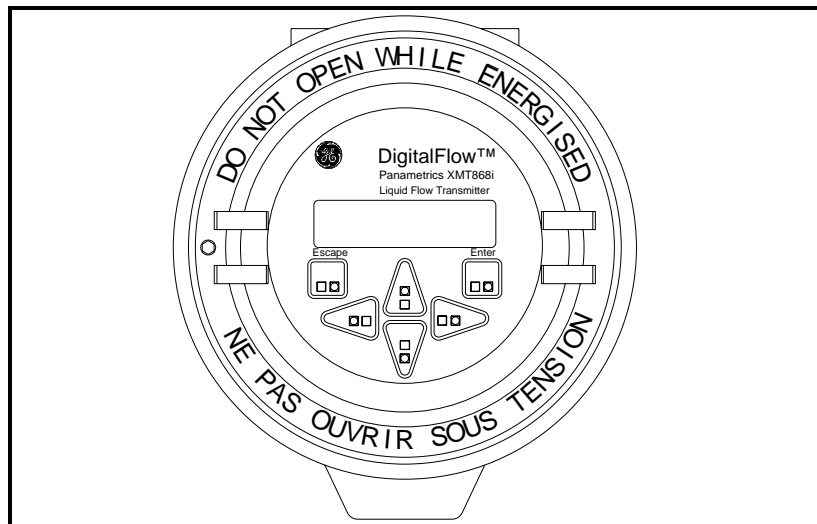

Figure 1-1: XMT868i Enclosure Screen
- The infrared keypad (shown in Figure 1-1 on page 1-2), which permits direct communication with the XMT868i
Along with the 2-line, 16-character LCD, the XMT868i includes a 6-key infrared keypad. The decal cutout for each key contains an infrared transmitter LED, an infrared phototransistor and a visible red LED. If an operator presses his finger or other reflective object against the glass, directly over a key, infrared light from the emitter is redirected back through the enclosure window to the sensor. Use the infrared keypad to navigate through the user program. The menu map may be followed in sequence, or the four arrow keys may be used to scroll through the prompt screens. Figure 1-1 below shows the front of the XMT868i, with the infrared keypad.